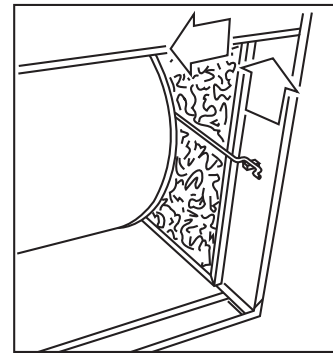
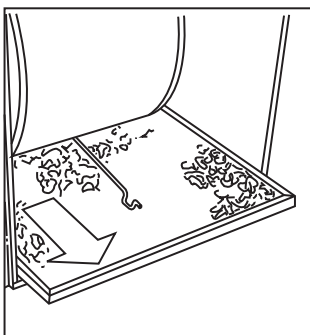

Fig. 27 - Release Filter Retaining Rod (Side Inlet)
Fig. 26 - Slide Filter Out (Bottom Inlet)
d. Slide air filter out of furnace. See Fig. 26.
• AIR FILTER(S) LOCATED IN BLOWER COMPARTMENT SIDE:
a. Remove filter retainer from latch. See Fig. 27.